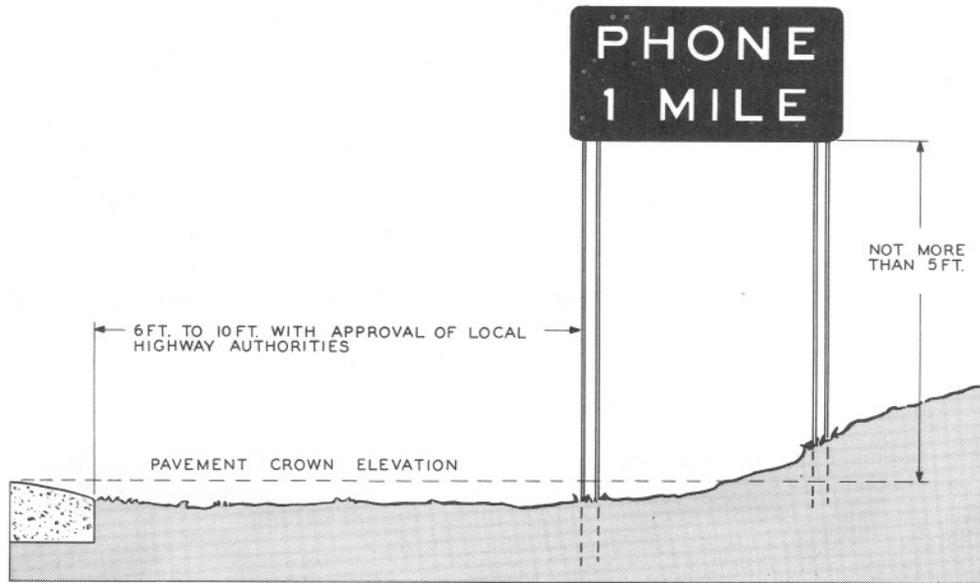

Fig. 19 — KS-16540, List 1 Sign Mounted
- Mount the KS-16540-type signs at right angles to the traffic and as indicated by Fig. 19.